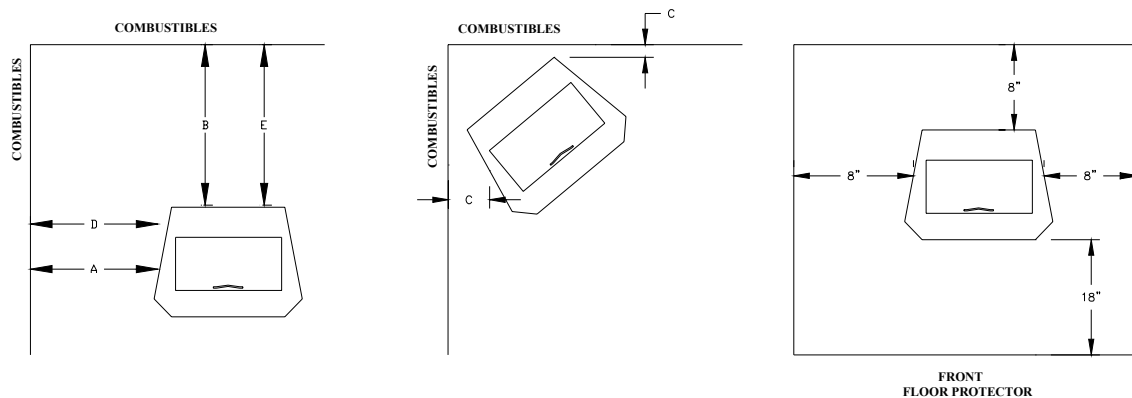
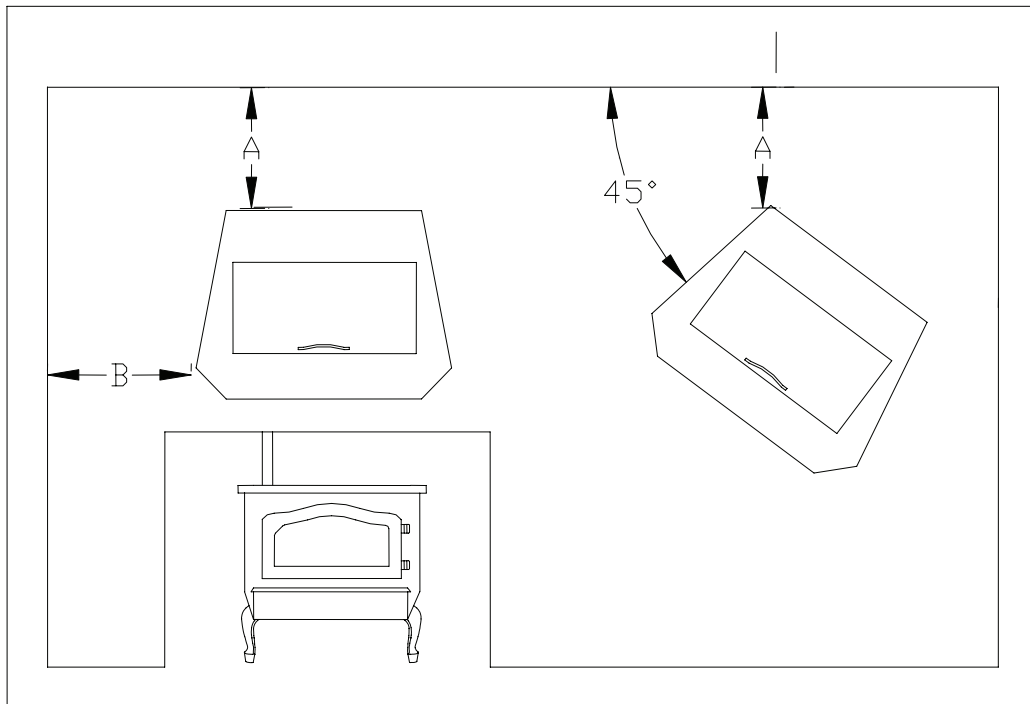

FIGURE 10: FREESTANDING CLEARANCE REQUIREMENTS
FIGURE 11: ALCOVE CLEARANCES
The Harvester minimum clearances must be maintained during installation. Failure to maintain proper clearances can create a hazardous environment that will lead to a house fire or endanger the occupants. A stove that is installed correctly and maintained properly will minimize operating costs. Country Flame recommends the use of a Hearth Industry Professional that is certified to install pellet-burning products. Check with the local dealer or contact Country Flame if there is any question about the installation, the installer, or the product being installed. Maintain the clearances shown in FIGURE 10. Follow the chimney manufacturer's installation instructions when installing the chimney system. Inevitably there will be differences between the chimney manufacturer and Country Flame's stove clearances. Always utilize the largest clearance listed. Contact Country Flame or one of its local authorized dealers to resolve any questions.
1. All Country Flame freestanding Harvester stoves require a listed floor protector that is noncombustible. Country Flame Harvester stoves were tested with a listed floor protection that had an R-value equal to or greater than 1.5. Ensure that any floor protection equals or exceeds R = 1.5 or greater. Refer to FIGURE 10 for floor protector clearance requirements.
- ii. k-factor is given with required thickness (T) in inches: $R = (1/k) \times T$.
WARNING: A FREESTANDING HARVESTER STOVE MUST HAVE ITS LEGS OR PEDESTAL PERMANENTLY BOLTED TO THE FLOOR OF THE MOBILE HOME. FIGURE 10 shows a leg option installation and FIGURE 11 shows a pedestal option installation.